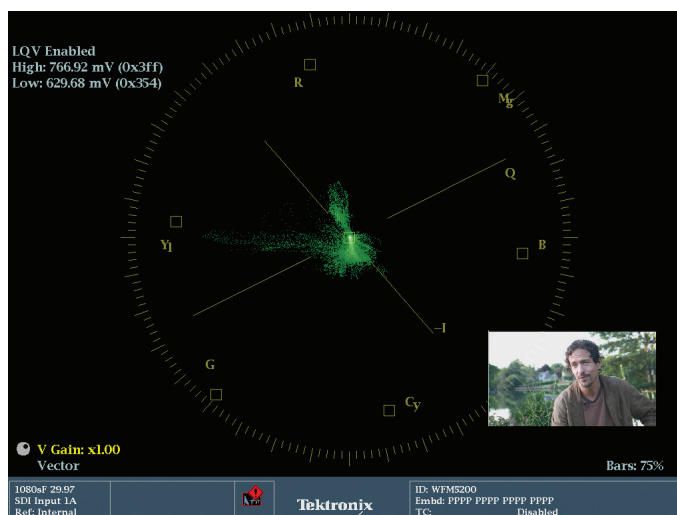
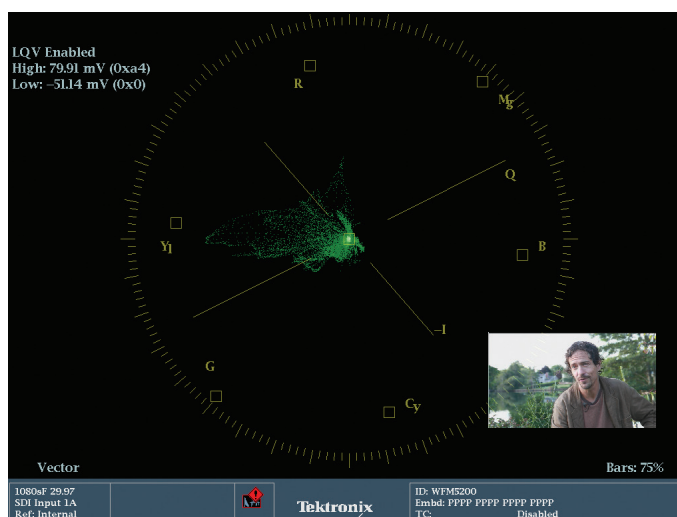

Figure 2-23. LQV Highlight selection.
Figure 2-24. LQV Shadow selection.
17. In steps 1-14 you created an LQV display for highlights (Figure 2-23). To create a similar LQV to display shadows (Figure 2-24), follow the directions in step 10, but change the LUMA HIGH value so that only the lowest 10% (or whatever your chosen level) is displayed. Using the math example in step 13, 70 millivolts is 10%. To set the upper range of your shadow range, add 70 to 0mv. If you prefer 20, set it at 140mv.
21. Use the GENERAL dial, turning counter clockwise, to adjust the level as low as it will go. This level is already probably set to the default of -51.14 mv. If so, there is no need to adjust it (see Figure 2-23).